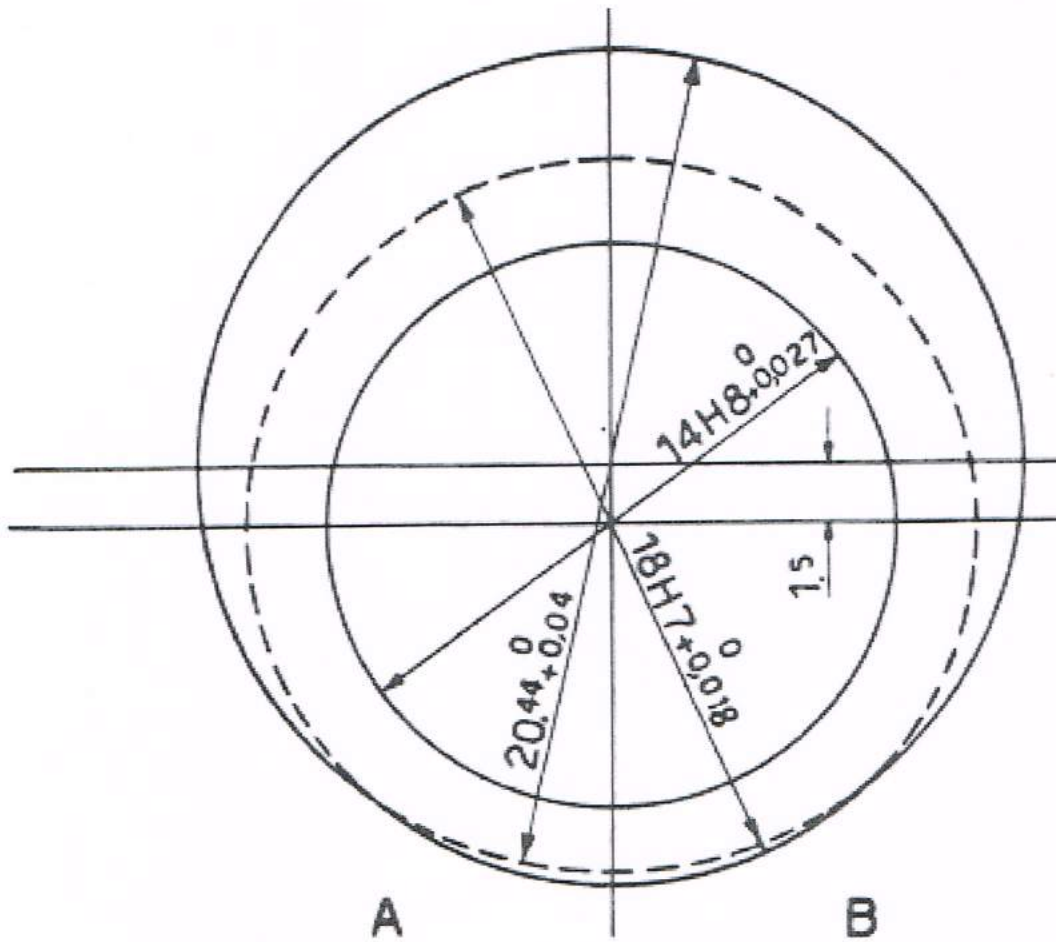

Fig. 26 - Diagram of the oil pump blade
- The running seat of the two pegs. It is not circular but has the form and dimensions shown in fig. 26.